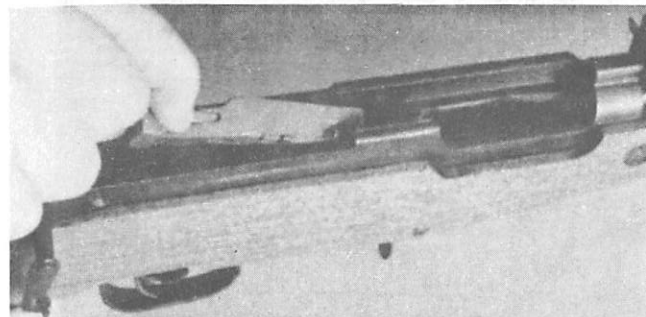

Fig. 12
4. Bolt will be left in the bolt way of the receiver. With thumb and forefinger lift the bolt out of the bolt way and place on a clean dry surface with the other parts (Fig. 12).